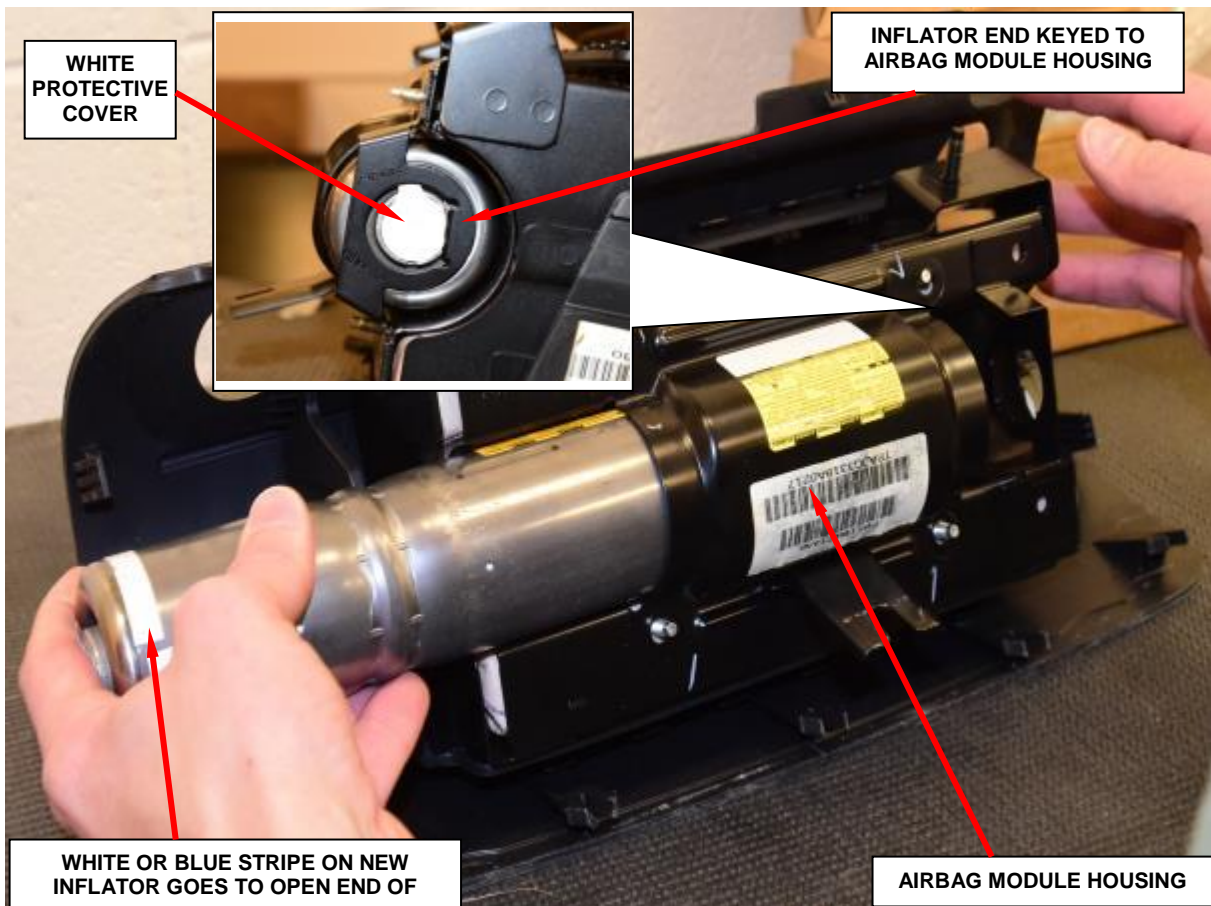

Figure 120 – Inflator Installation
NOTE: The inflator's key **MUST** line up with the housing's key (Figure 120).
m. Slide the **old** inflator out of the passenger airbag module housing (Figure 120).
NOTE: The inflator is keyed to fit into the housing. Ensure that when the new inflator is inserted, the keyed end goes in first (Figure 120).
n. Slide the **NEW** inflator into the passenger airbag module housing. The keyed end is inserted first; therefore, the white stripe on the **NEW** inflator will be located at the open end (Figure 120).